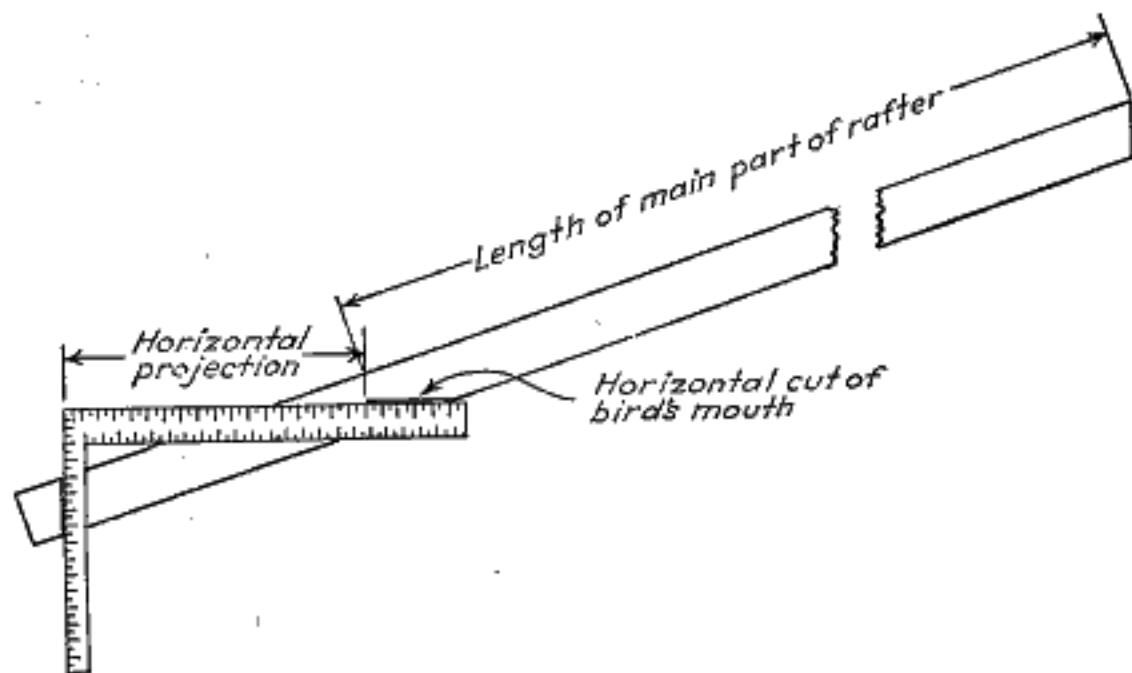

FIG. 103.—Marking off the rafter tail.
**127. Marking Off the Rafter Tail.**—The length of the rafter tail or overhanging part and the angle of cut at the lower end of the rafter are determined as follows: place the square with the edge of the body along the horizontal cut of the bird's mouth and measure out from the plumb line of the bird's mouth, the horizontal projection (see Fig. 103). A mark along the tongue gives the end cut.